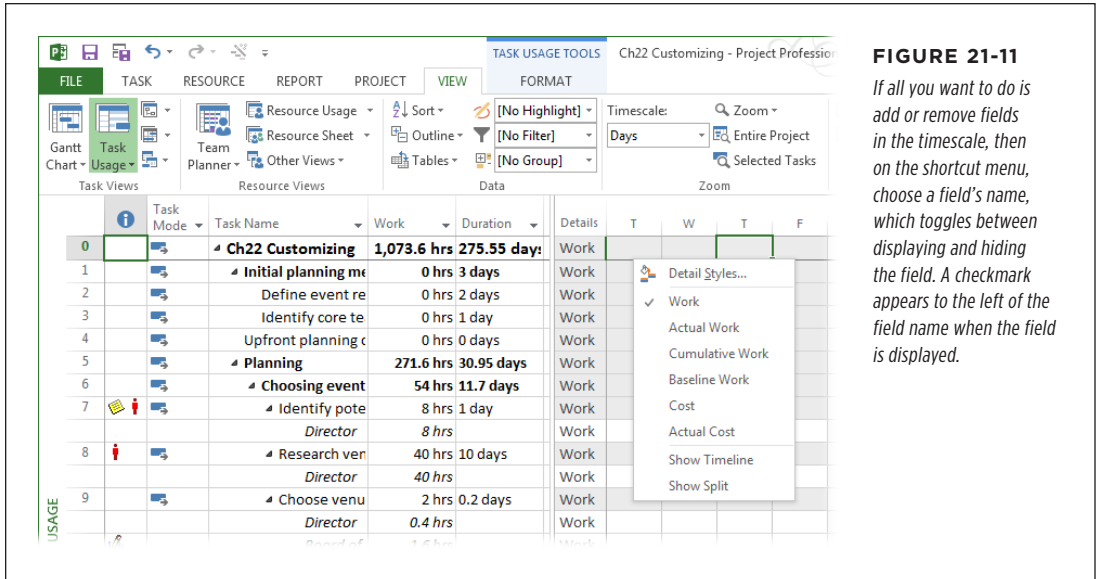

FIGURE 21-11
2. In the timescale grid, right-click any cell, and then, on the shortcut menu, choose Detail Styles, as shown in Figure 21-11.